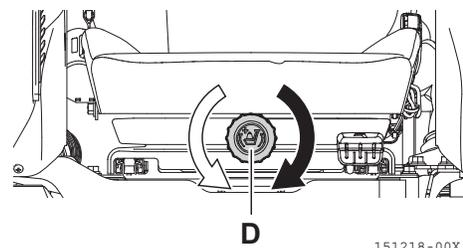

Fig. 2-95
The weight adjustment dial (Fig. 2-95, D) is turned and it can adjust to the hardness of the bearing surface cushion with the operator's weight.
- Turn the weight adjuster dial (Fig. 2-95, D) clockwise the setting weight is increased.
- Turn the weight adjuster dial (Fig. 2-95, D) counterclockwise, the setting weight is decreased.